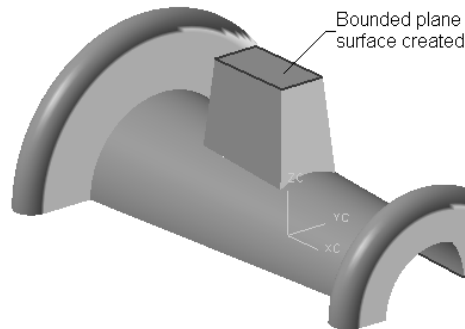

Figure 11-100 The resulting bounded plane surface
2. Select the sketch that is used to create the second surface and choose the **OK** button. The resulting bounded plane surface is shown in Figure 11-100.